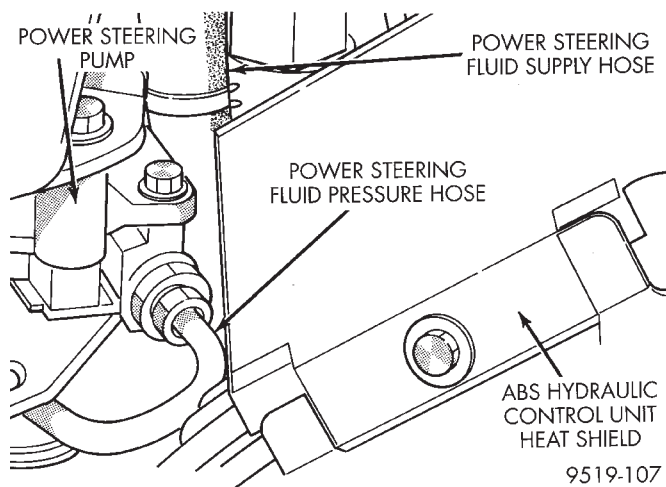

Fig. 24 Power Steering Fluid Pressure Hose Attachment To Pump
- (6) Remove the power steering fluid pressure hose from the pressure fitting on power steering pump (Fig. 24). Let remaining power steering fluid drain out of the power steering fluid supply hose, power steering pump and power steering fluid pressure hose. **After power steering fluid has drained out of pump and hose, install a cap on the power steering pressure hose and a plug in the power steering pump pressure fitting.**
- (7) Remove hose clamp, attaching power steering fluid supply hose to the power steering pump suction fitting (Fig. 24). Then remove power steering fluid supply hose from fitting. **Install a cap on suction fitting of power steering pump.**
(10) Remove the antilock brakes hydraulic control unit heat shield (Fig. 24) from the hydraulic control unit mounting bracket.
(13) Install heat shield on hydraulic control unit for the antilock brake system (Fig. 24).